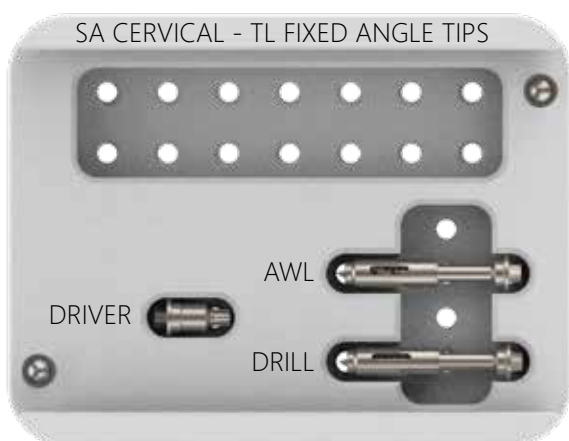

Figure 8a
- The Fixed Angle Driver is provided unassembled. Self - Guided Fixed Angle Awl, Self - Guided Fixed Angle Drill, and Fixed Angle Hex Driver (Screw Inserter) tips come standard in the Fixed Angle Driver Tip Caddy (Figure 8a).